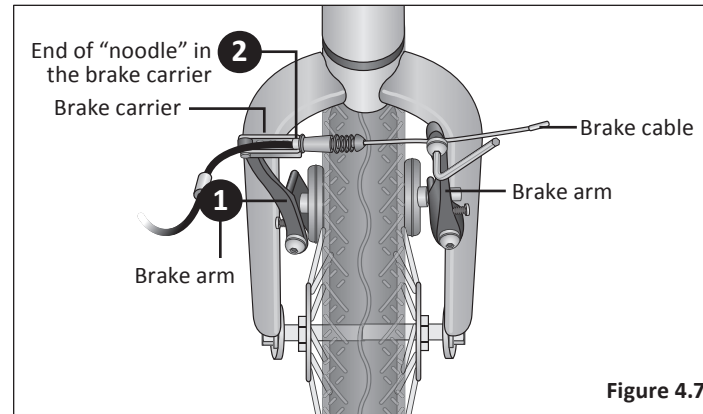

Figure 4.7
- 1 Squeeze the two brake arms together until the brake pads touch the wheel rim. **Figure 4.7**